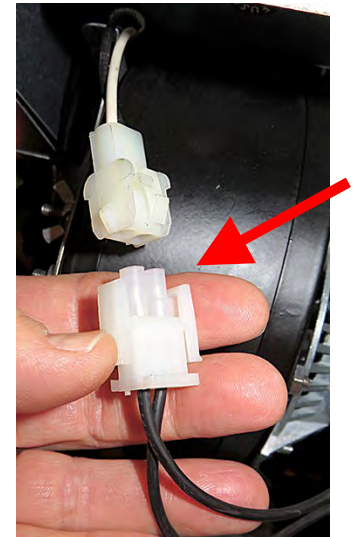

Figure 2
2. Disconnect the 2-pin blower power connection (see Figure 2).